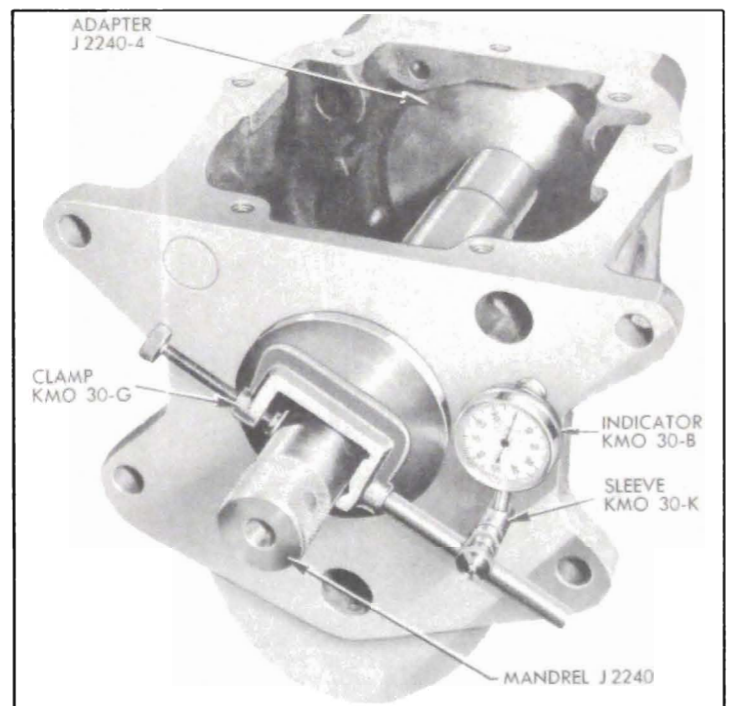
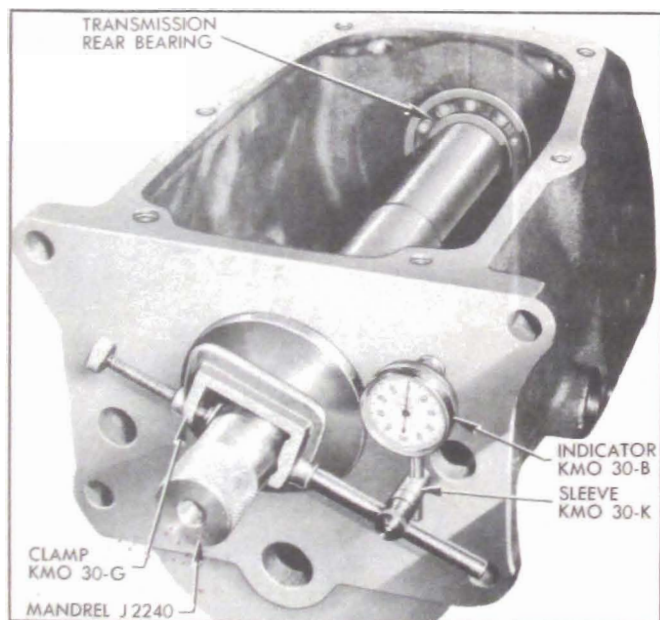

Figure 4-53—Checking Run-Out of Transmission Case—Series 40-50
Figure 4-54—Checking Run-Out of Transmission Case—
1. In *Series 40-50* transmission case, install Adapter J 2240-4 in rear opening in case, then install Mandrel J 2240 as shown in figure 4-53. In *Series 70*, install transmission rear bearing in case, then install Mandrel J 2240 as shown in figure 4-54.
2. Mount dial indicator on the mandrel as shown in figures 4-53 and 4-54 so that indicator stem bears against front face of transmission case 3" from center of mandrel.